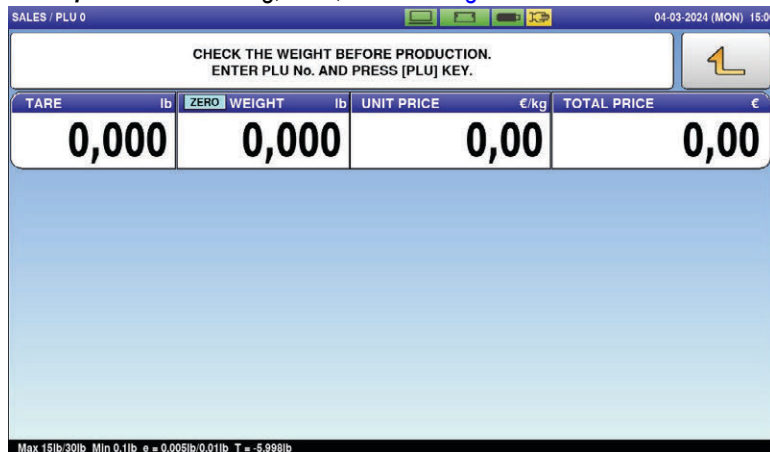

Figure 2-8. Uni-8 Default Configuration - European Mode
4. The scale will be in **European** mode with kg, euro, etc. See Figure 2-8.